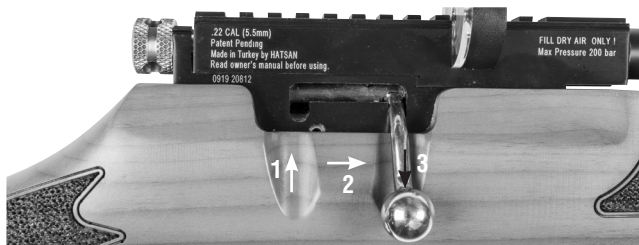

Fig. 11
6. Once you are ready to fire, release the bolt lever and move it all the way forward and lock at front. **(Fig.11)**